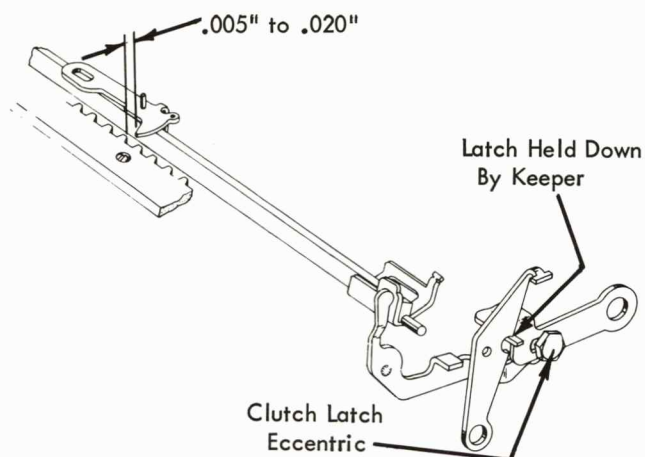

FIGURE 140. Pawl Clearance Adjustment
1. **Pawl Clearance** - Adjust the clutch latch eccentric so that the escapement pawl will clear the rack teeth by .005" to .020" when the latch is being held down by the keeper (Fig. 140).